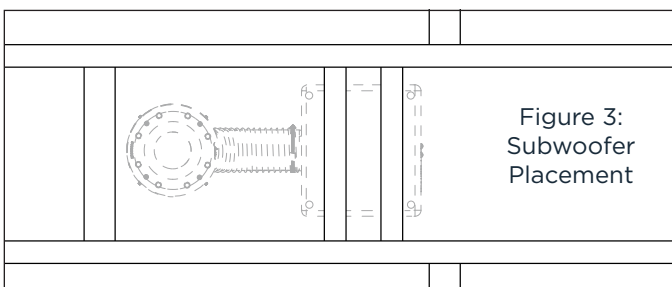

Figure 3:
17. Place the subwoofer into the prepared 2x4 joist location, positioning the PPX subwoofer opening toward the grille location. The PPX subwoofer feet should straddle the 2x4 boards (see Figure 3).